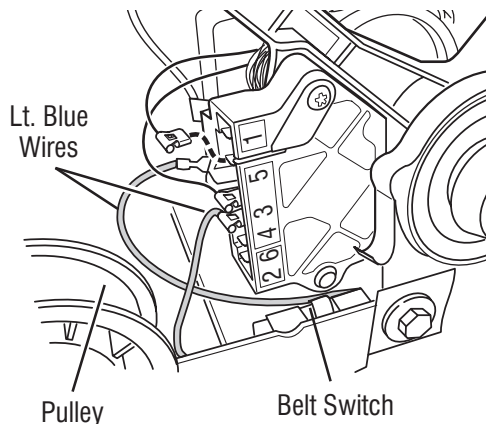

Figure 9b - Checking the belt switch.
11. Check the belt switch by measuring resistance between the two light blue wires, as shown in figure 9b, while pushing up the pulley.